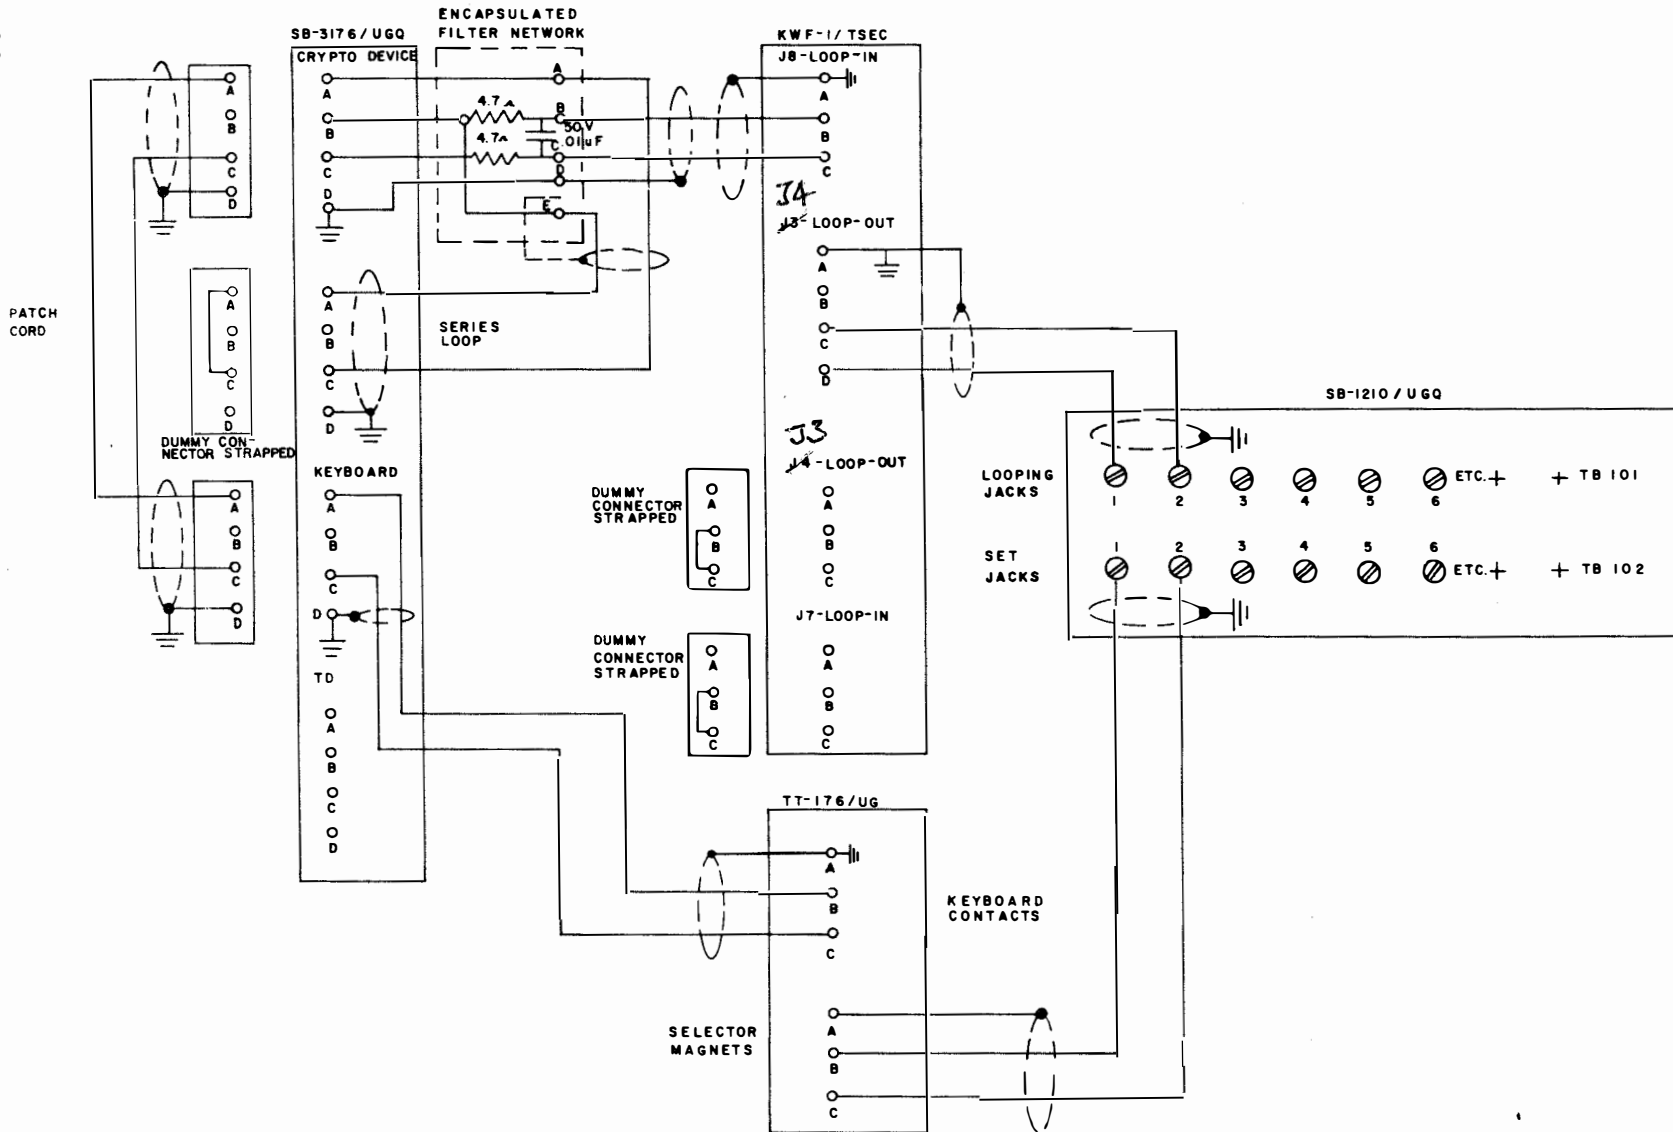

Figure 2.13 Typical Cryptographic System Using the TT-176/UG Series Teletypewriters
14. Using standard procedures, make up a two-wire shielded cable assembly using a MS3106A-16S-6P (item 9) connector, and connect to the SB-3176/UGQ Patch Panel in accordance with NAVSHIPS 0967-284-5070. Pins B and C are signal lines, pin A is the shield. At the SB-3176/UGQ panel, pins A and C are signal lines, pin D is ground and pin B is not used. See Figure 2.13.
15. Using standard procedures, make up a two wire shielded cable assembly using a MS3106A-16S-6S (item 8) connector and connect to the SP-1210/UGQ Patch Panel. Pins B and C are signal lines. Pin A is the shield. At the SB-1210/UGQ Patch Panel install terminal lugs on the signal lines. The shield is ground, See Figure 2.13. Connect the signal lines to SET JACK terminals on the SB-1210/UGQ Patch Panel.
Figure 2.13 shows a typical cryptographic system using the TT-176/UG Series Teletypewriter.